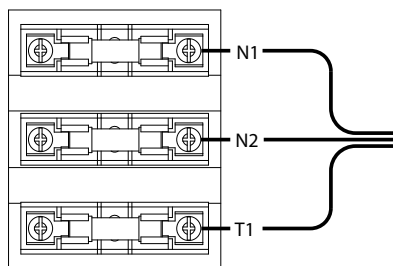

Figure 39. Transfer Switch Fuse Block - CorePower
3. Remove fuse F1 and F2 from the fuse holder. (see Figures 39, 40, and 41).
3. Remove fuses F1, F2, and F3 from the fuse holder (see Figures 39, 40, and 41).